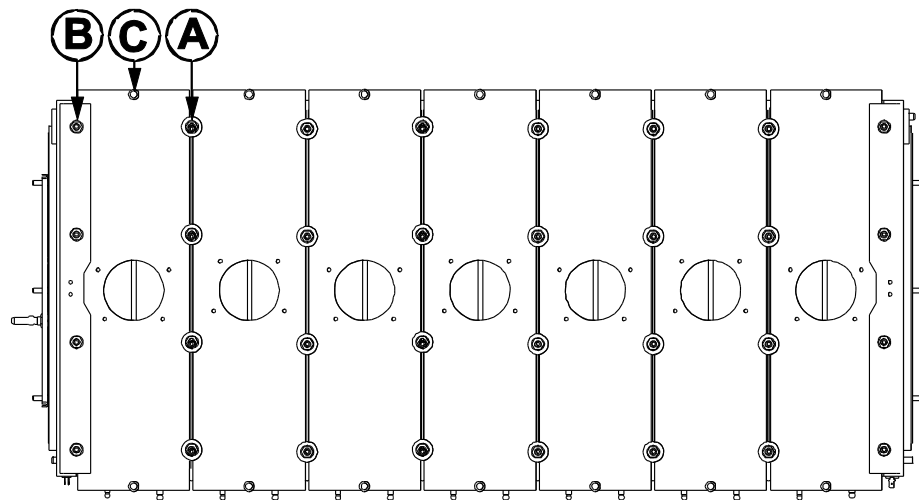

Figure 8-13: Removal of Burner Plate Hardware (Steps 9, 10, 11)
- a) **All Modules:** Use a 13mm wrench to remove all “A” and “C” nuts in Figure 8-13, below. Leave the “B” screws affixed so all burner plates may be lifted together. Then complete the remainder of the instructions in this section.
10. To access individual burner modules, refer to Figure 8-13 and 8-14 and, using a standard Phillips head screwdriver, remove the “C” screws of each burner module to be accessed. These are the screws that are located at each *end* of each burner plate (2 per plate).